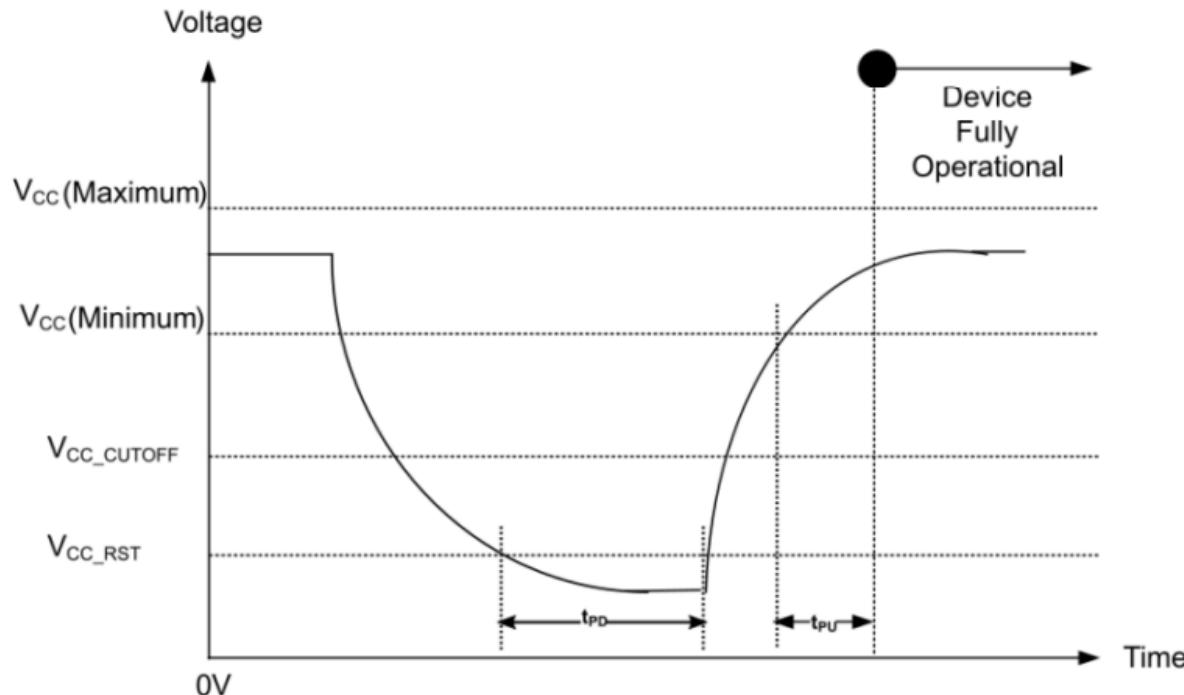

Figure 7: Power-Down Behavior
- During power loss or brownout, if VCC goes below VCC-CUTOFF. All supply voltages VCC and VCCIO must be dropped below their respective (RESET) values VCC_RST for a period of tPD. Figure 7 timing needs to be observed for the subsequence power-up.